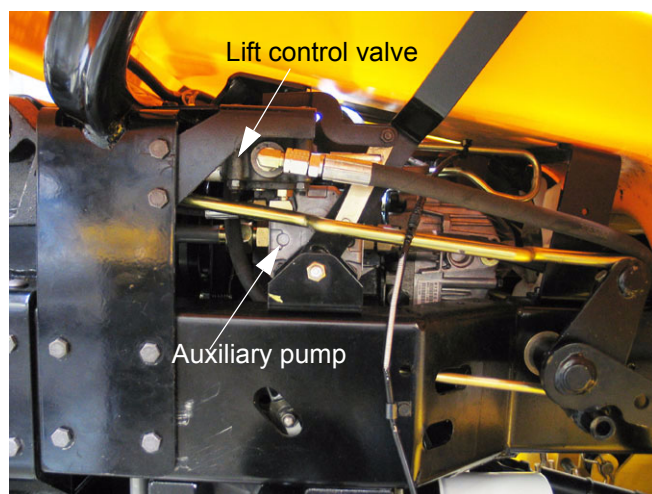

Figure 1.9
- 1.9. The lift cylinder is operated by a control valve under the right rear fender. See Figure 1.9.